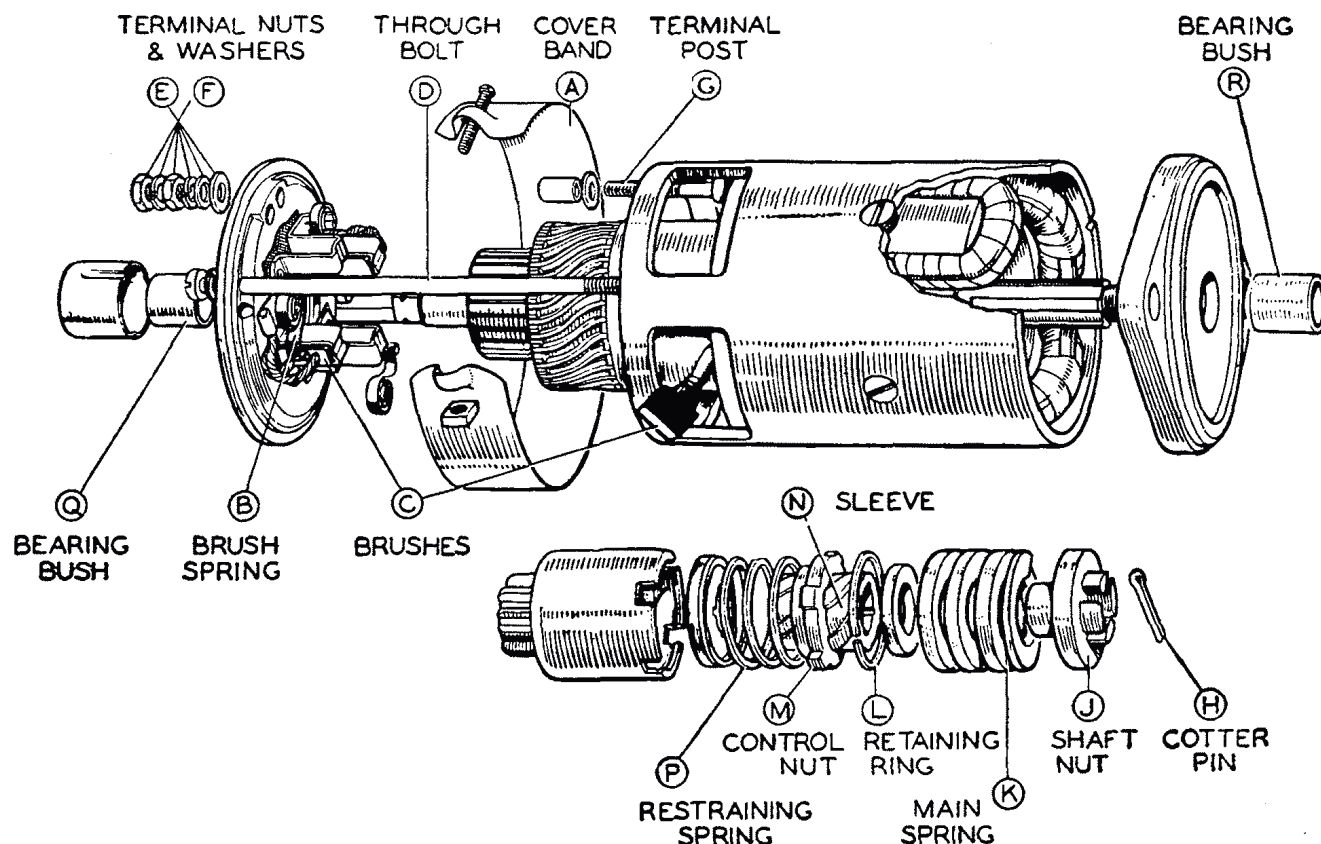

Fig. N.5.
Remove the starter cover band (A) (Fig. N.5) and examine the brushes (c) (Fig. N.5) and the commutator. Hold back each of the brush springs (B) (Fig. N.5) and move the brush by pulling gently on its
Take off the cover band "A" (Fig. N.5) at the commutator end, hold back the brush springs "B" (Fig. N.5) and take out the brushes "C" (Fig. N.5) from their holders.
- If the brushes are worn so that they no longer bear on the commutator, or if the flexible connector has become exposed on the running face, they must be renewed. Two of the brushes are connected to terminals eyelets attached to the brush boxes on the commutator end bracket. The other two brushes (Fig. N.5) are connected to tappings on the field coils.
To dismantle the drive, extract the split pin and remove the shaft nut "J" (Fig. N.5); withdraw the main spring and collar.